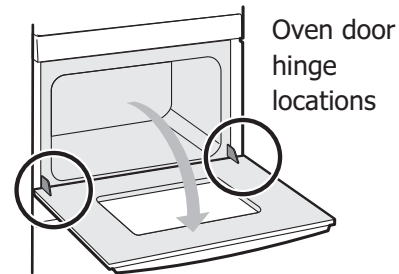

Figure 40: Door hinge location
3. Fully open the oven door, horizontal with floor (Figure 40).